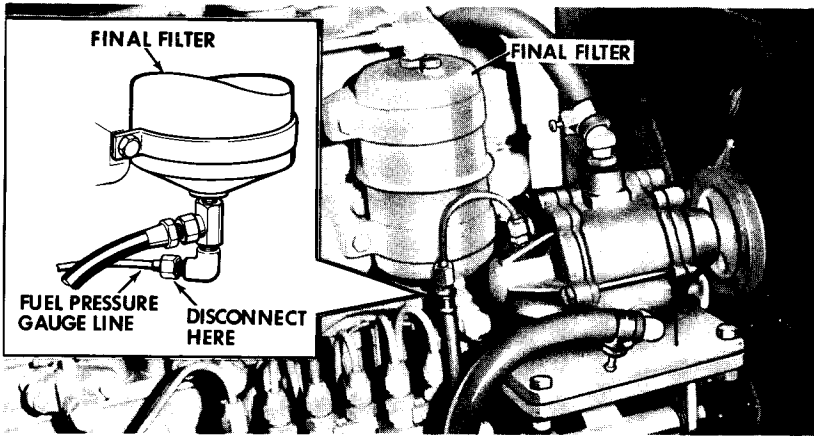

Figure 65
3. Carefully disconnect the fuel pressure gauge line at the point indicated in Figure 65. Make sure no dirt enters the line.